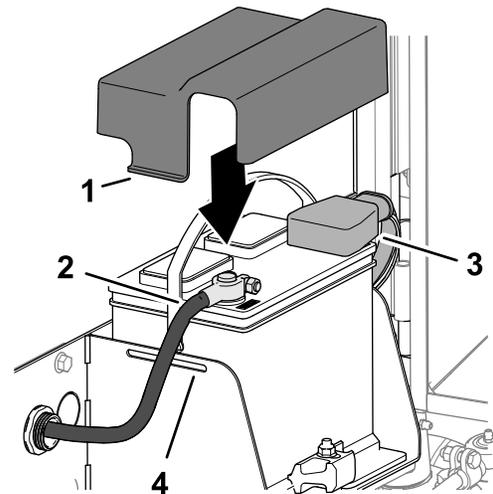

Figure 92
1. Install the positive battery cable (red) to the positive (+) battery post (Figure 92).